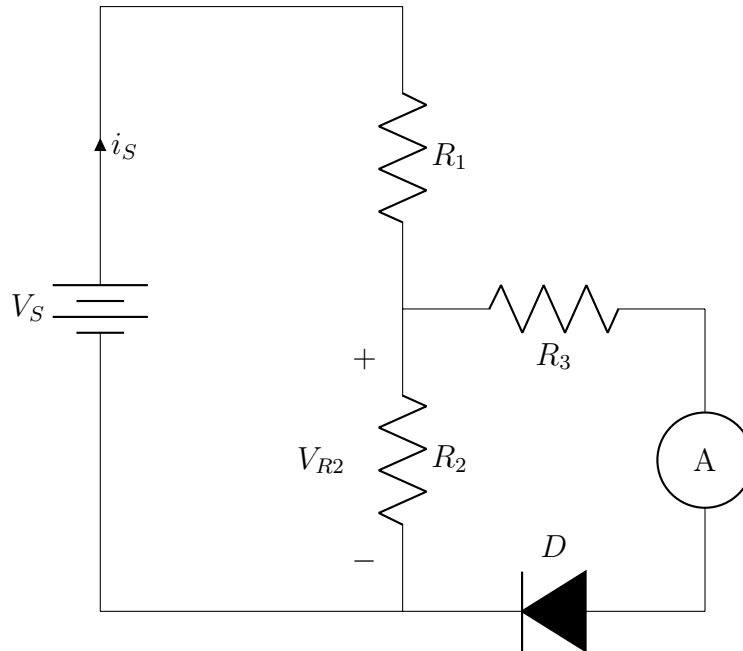

Figure 2: PN-Junction Diode Test Circuit
2. The minimum output voltage by the Power Supply Module is 0.6V. To provide a low enough voltage to see the diode turn on, a voltage divider circuit is needed. Build the circuit shown in Figure 2 using the UCTRONICS U6225 Power Supply Module and the AstroAI AM33D Digital Multimeter as an Ammeter (measure with the $2000\mu\text{A}$ setting) with $R_1 = 680\Omega$, $R_2 = 100\Omega$, and $R_3 = 1000\Omega$.
1. Define all parameters and variables in Equation (2).
2. Plot the $I_D(V_{PN})$ characteristics obtained on a log-linear plot. Note that the term ‘log-linear’ is used to describe a semi-log plot with a logarithmic scale on the y-axis and a linear scale on the x-axis. The y-axis label should read ‘1N4148 Diode Current, I_D (A)’ and the x-axis label should read ‘Diode Voltage, V_{PN} (V).’ Make sure to have enough data points to generate a smooth curve. Use the measured value of V_{PN} (from your V_{PN} vs V plot) across the diode in this plot, i.e., do not assume that the voltages supplied by the power supply are those across the diode.
5. Comment on the values of I_S and γ that yield the best fit to the data. How do your experimental and varied values compare with those given in the diode manufacturer data sheets (do not use the values obtained by the TA)? (For R_s use Figure 2, curve 2, on the Vishay datasheet. I_S can be found under reverse current, and γ should be about 2.3.)